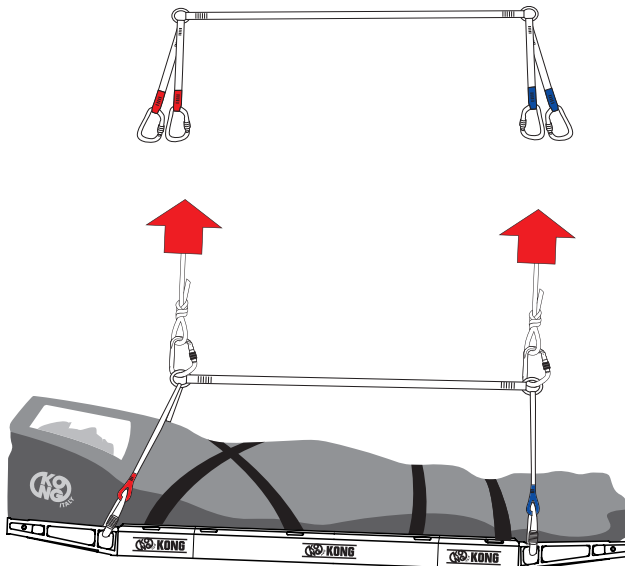

Fig. 4
- **Transport on ropeway and overhead lines (fig. 4)**